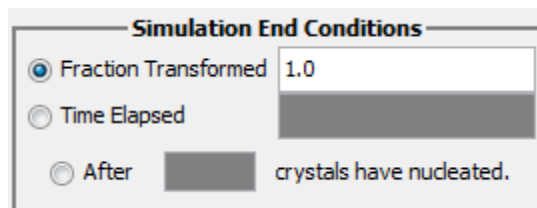

Figure 15. Parameters controlling how the simulation ends.
3.3. Termination Condition Parameters -- Figure 15